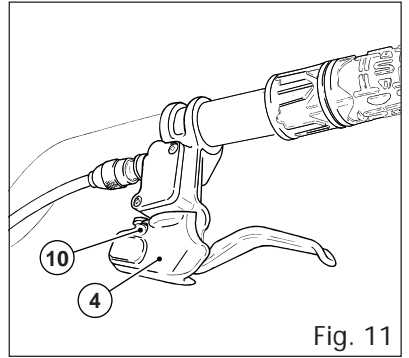

Fig. 11
- take off the lever cover (4, fig. 11) by unscrewing screw (10);